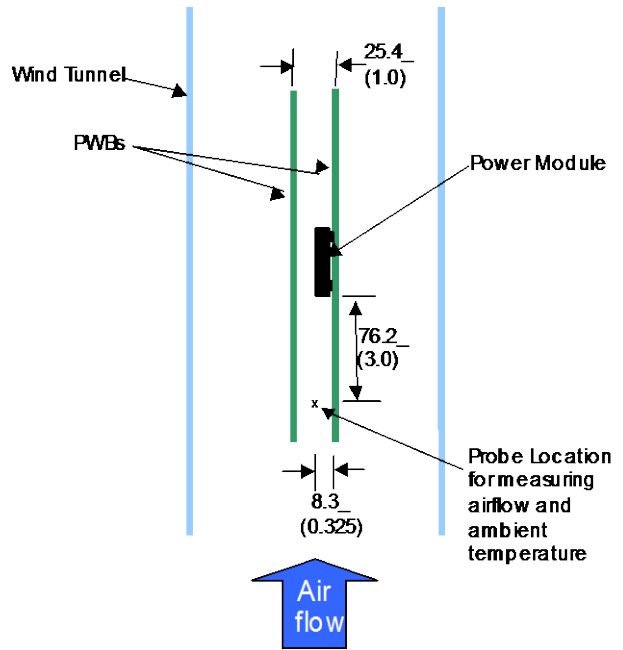

**Figure 31. Temperature measurement locations  $T_{ref1}$  and  $T_{ref2}$ .**
Considerations include ambient temperature, airflow, module power dissipation, and the need for increased reliability. A reduction in the operating temperature of the module will result in an increase in reliability. The thermal data presented here is based on physical measurements taken in a wind tunnel. The test set-up is shown in Figure 32. Note that the airflow is parallel to the short axis of the module as shown in figure 31. The derating data applies to airflow in either direction of the module’s short axis.
The thermal reference points,  $T_{ref1}$  and  $T_{ref2}$  used in the specifications are shown in Figure 31. For reliable operation these temperatures should not exceed 115°C.